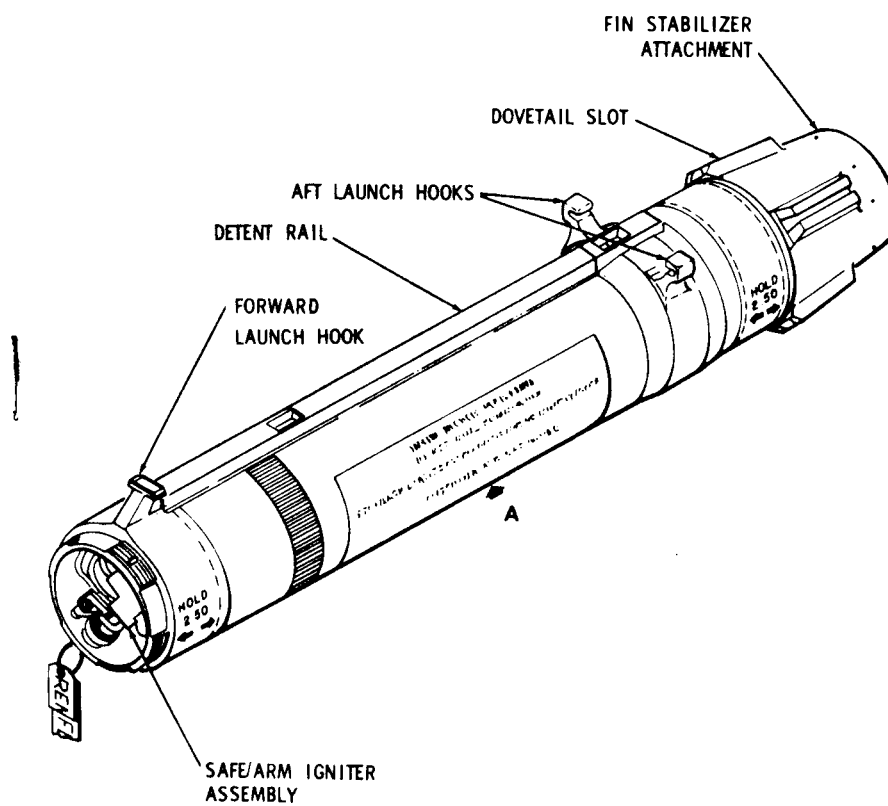

Figure 5-56. MK 53 Rocket Motor
- b. MK 53 Rocket Motor: Contains approximately 89 pounds of propellant (reference figure 5-56).